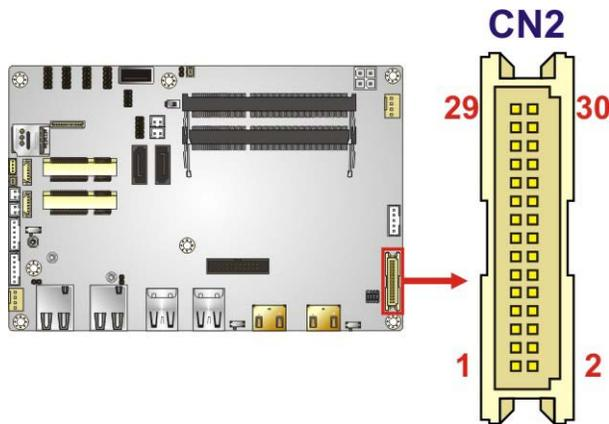

Figure 4-12: LVDS Connector Location
- CN Location: See **Figure 4-12**